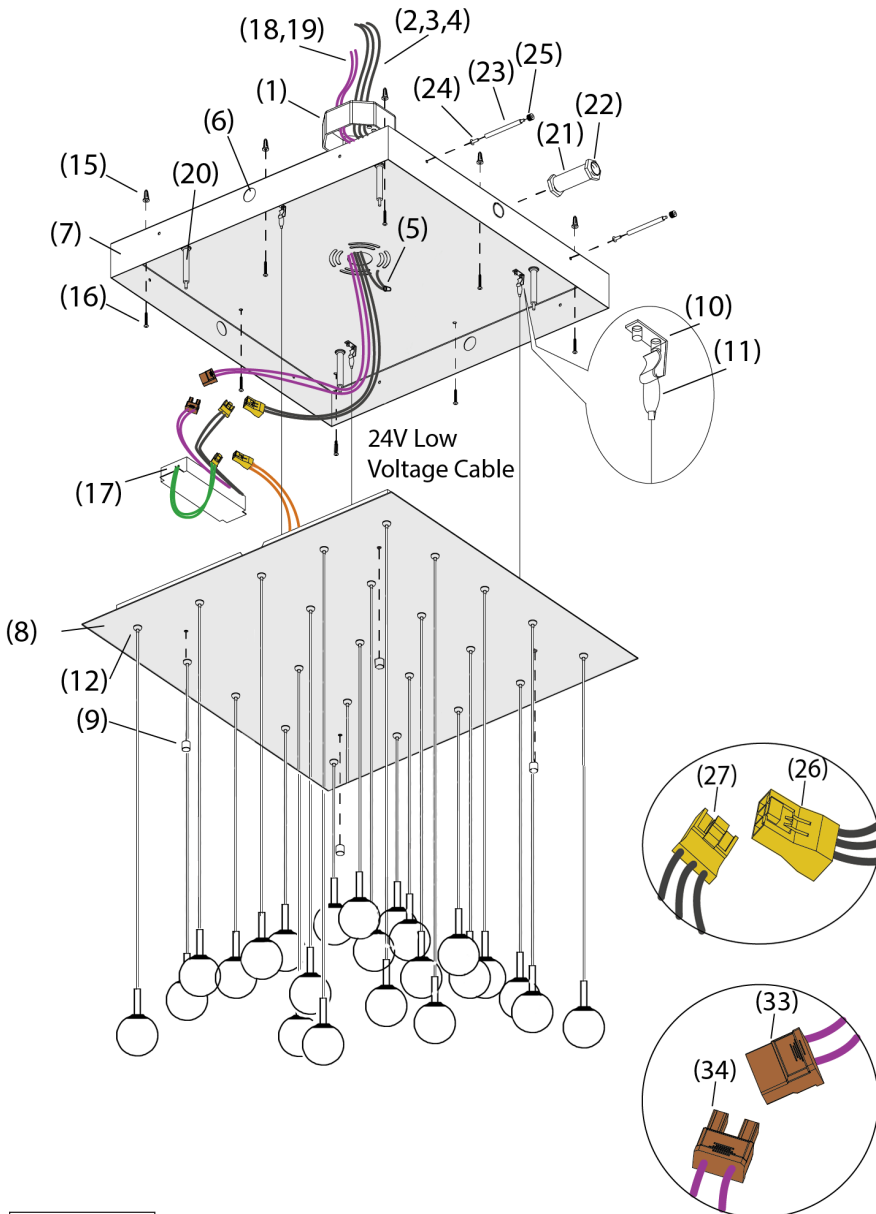

FIGURE 4
a. To mount the second fixture, push out large center knock-out (32) from second ceiling plate. Install the second ceiling plate into the side with the fixture spacers and joiner kit. Insert fixture until it is securely aligned by the threaded rods of fixture spacers. Mark and drill eight support holes using the appropriately
sized drill bit into a rigid ceiling material. Insert ceiling anchors (by others) into the holes. First screw the anchor screws halfway into the ceiling anchors; when properly aligned with the joining ceiling plate (7), fully tighten all anchor screws (16). (see Figure 4) Place knurled ring (22) over the end of the joiner bracket (21), and place the hex nuts (25) over exposed thread on the fixture spacers (23), and tighten. Feed the three conductor 36" extension wire (26) and (Optional) Purple and Grey 36" extension wires (27) through joiner tube (21) into the second fixture. (See Figure 1)
**a.** Determine the approximate length of each suspension wire. If in doubt about exact length needed, leave a little extra wire until final installation of face plate (8). Push the excess wire into the canopy by pressing the small barrel of the gripper (12) upward. This will release the wire tension and allow the suspended wire to be pulled through the gripper (12). Roll excess wire into a small loop inside the canopy. Use supplied velcro strap, attached to each wire in the face plate (8).
**12.** Suspend the from face plate (8) from ceiling plate (7) by attaching three support loops (11) to their mating hooks (10).
**13.** Make sure all wires are carefully placed inside face plate (8) and make sure all of the orientation arrows are aligned. Secure the canopy cover (8) to the ceiling plate (7) by aligning the holes in the canopy cover with the threaded standoffs (20), then tighten the four decorative finials (9) onto the threaded standoffs (20). Once the canopy is in place, fine tune the wire lengths longer or shorter to get each light guide adjusted to its preferred length by pushing the end of the gripper (12) (Figure 4).